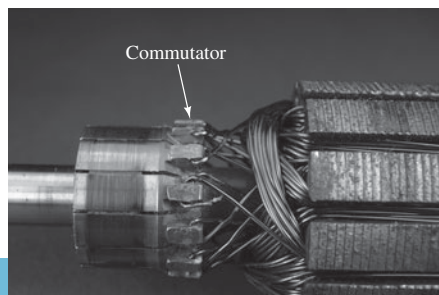

FIGURE 13.5 Commutator. (Used with permission from © sciencephotos/Alamy.)
- **Commutator:** A commutator reverses the direction of the current in each conductor through the armature as it passes from one pole to another and helps to develop continuous unidirectional torque. Figure 13.5 is an actual photograph of a commutator.